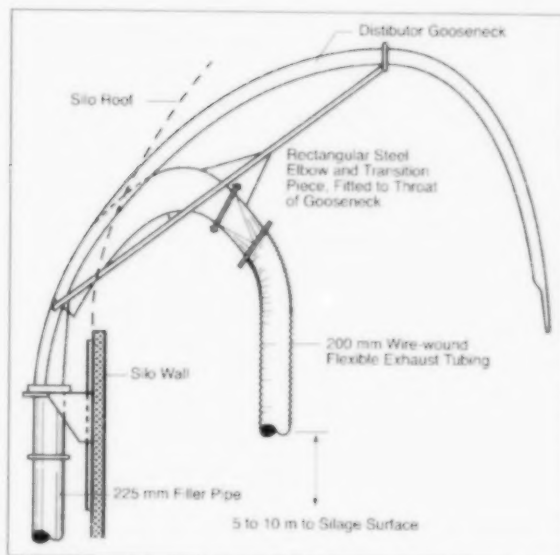

FIGURE 4. Suggested ventilation adapter for rotary distributors.
- A top unloader can ventilate a silo effectively. However, if it becomes necessary to service a defective unloader, assume that gases are present. To expel gases before entering, run the forage blower with the chute doors closed and the roof vent open. If the head space is greater than 5 m (15 ft.), attach a tube adapter to the blower pipe (see *Figures 4* and *5*). For a